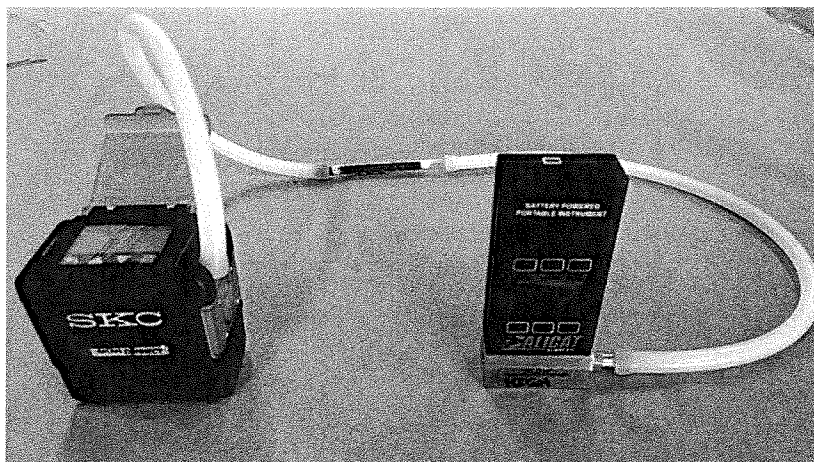

Figure 8. Calibration Set up (1 to 5 L/min)
- 4.2.1.4 Connect the other end of the sorbent tube to ALICAT flowmeter using calibration tubing (Figure 8).
- 4.2.5.2 Connect the other end of the sorbent tube to ALICAT flowmeter using calibration tubing (Figure 8).